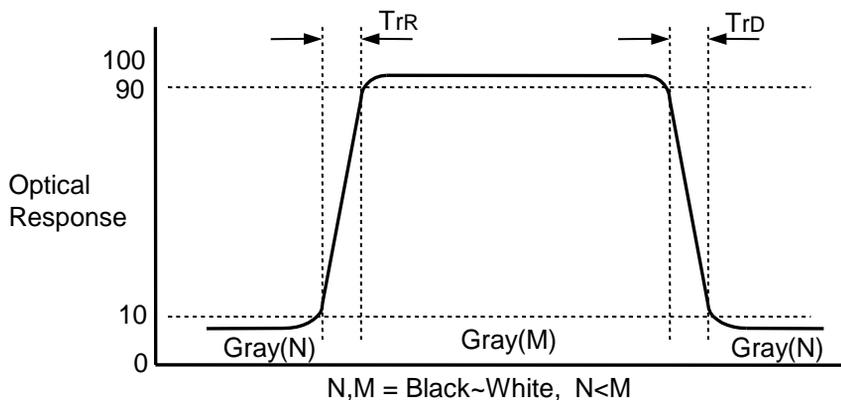

FIG. 3 Response Time
2. Response time is the time required for the display to transit from Gray(N) to Gray(M) (Rise Time, Tr_R) and from Gray(M) to Gray(N) (Decay time, Tr_D). For additional information see the FIG. 3.